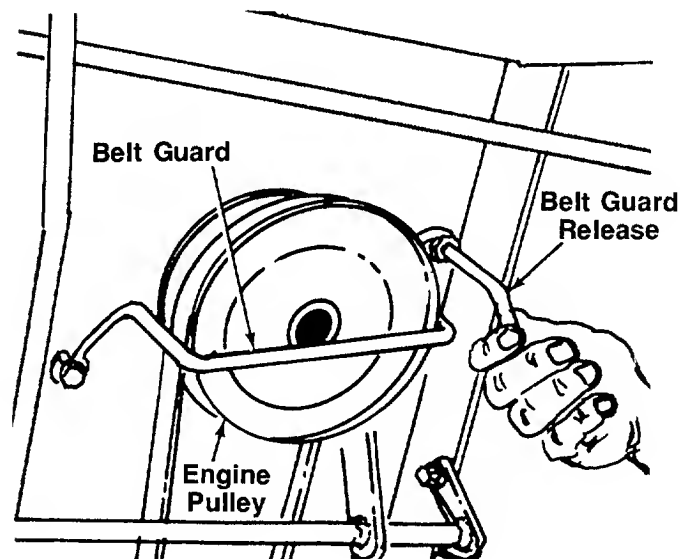

FIGURE 18.
3. Unscrew the belt guard release next to the engine pulley. See figure 18.